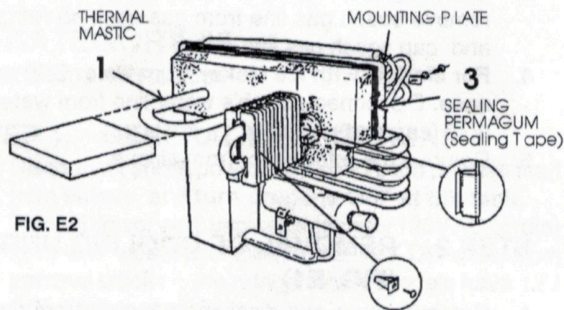

FIG. E2
4. Pull cooling unit partway out and disconnect thermostat capillary tube and pull out (FIG. E2).
6. Remove evaporator fins and shelf (FIG. E2).
2. Install evaporator fins and shelf (FIG. E2).
3. Apply sealing permagum or (sealing tape) to mounting plate (FIG. E2).
4. Reinstall thermostat capillary tube into proper position, the end of capillary tube should be approximately 1/4 inch above clamp (FIG. E2).